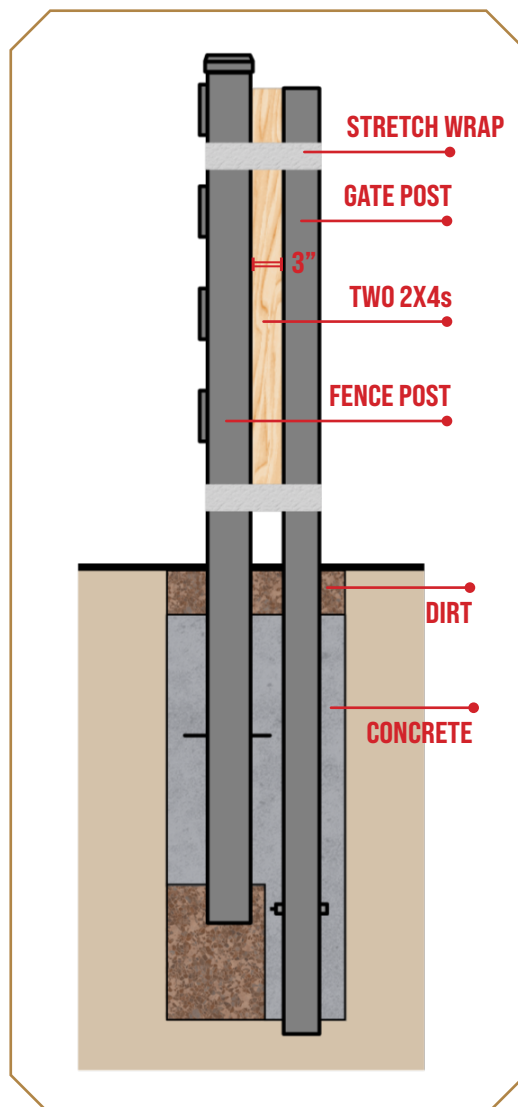

Figure 3
2. Set the gate post assembly in the hole with a 3" gap to the existing fence post. Plumb and square the gate post using two 2x4s which will equal 3 inches total in width (Figure 3). Use stretch wrap around the gate post, fence post, and 2x4s to temporarily hold them together .